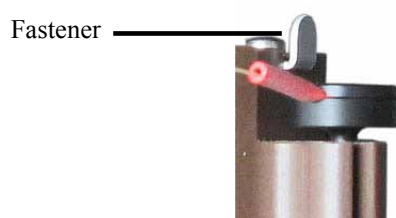

Fig. 50: Needle fastener
8. Lock the needle by closing the fastener (→ Fig. 50).